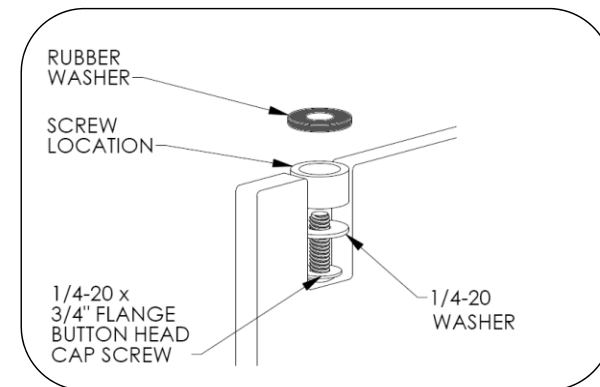

Fig. 1 – Tabletop attachment hardware
4. Install screws and washers in order shown in Fig. 1, using the included hex key.